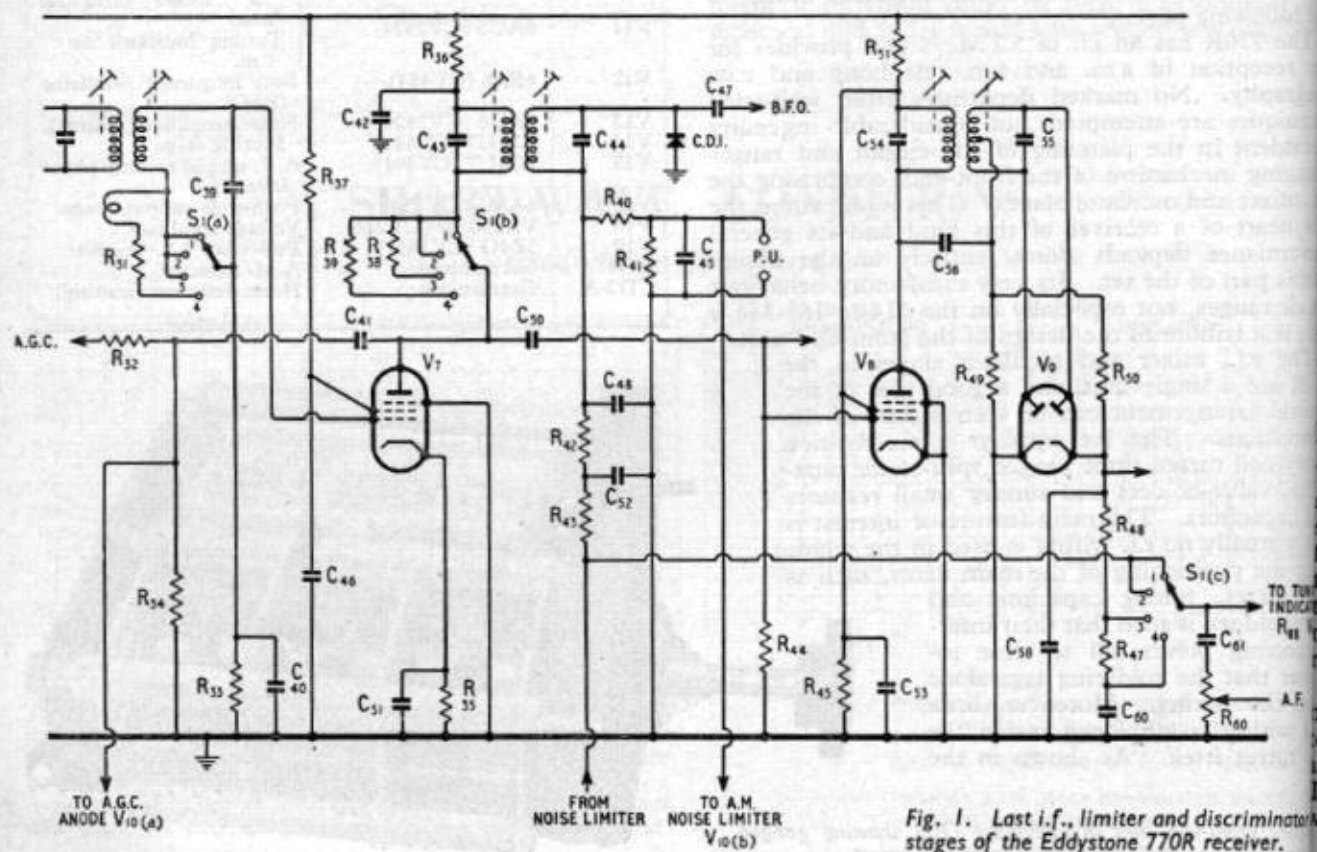

Fig. 1. Last i.f., limiter and discriminator stages of the Eddystone 770R receiver.
width for f.m. reception. For f.m. there is in addition a limiter and a Foster-Seeley discriminator. For a.m. reception there are no fewer than 10 tuned circuits and a crystal diode detector. Some interesting features (see Fig. 1) can be found in that part of the circuit, which includes the last i.f. stage V7 limiter V8 and discriminator V9. The switches S_{1a} to S_{1e} are part of a larger switching system, which might be called the "services switch," as it changes over from a.m. to f.m., adjusts bandwidth to suit each type of service and in the "CW" position switches on a BFO. S_{1a} and S_{1b} are for bandwidth adjustment of the i.f. amplifier at this point, the markings on S_{1a} indicating the four positions of the switching system; (1) CW, (2) AM, (3) NFM and (4) FM. NFM is narrow-band f.m. and is used for certain types of transmission for which the frequency deviation need not exceed ± 15 kc/s compared to the ± 75 kc/s of wide-band f.m.